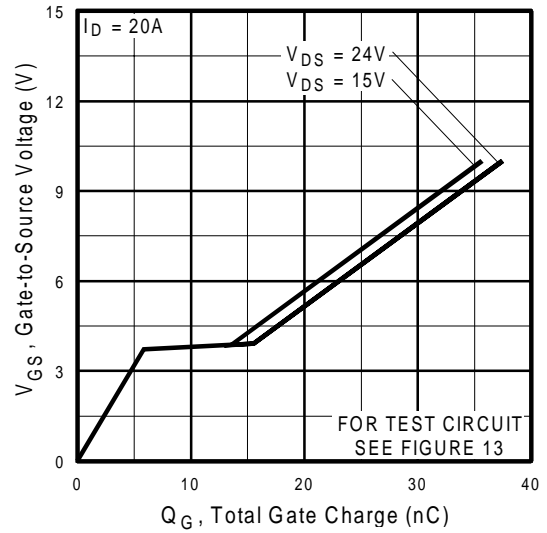

Fig 6. Typical Gate Charge Vs. Gate-to-Source Voltage
| Q_{gd} | Gate-to-Drain ("Miller") Charge | — | — | 15 | | $V_{GS} = 4.5V$, See Fig. 6 and 13 ④ ⑦ |